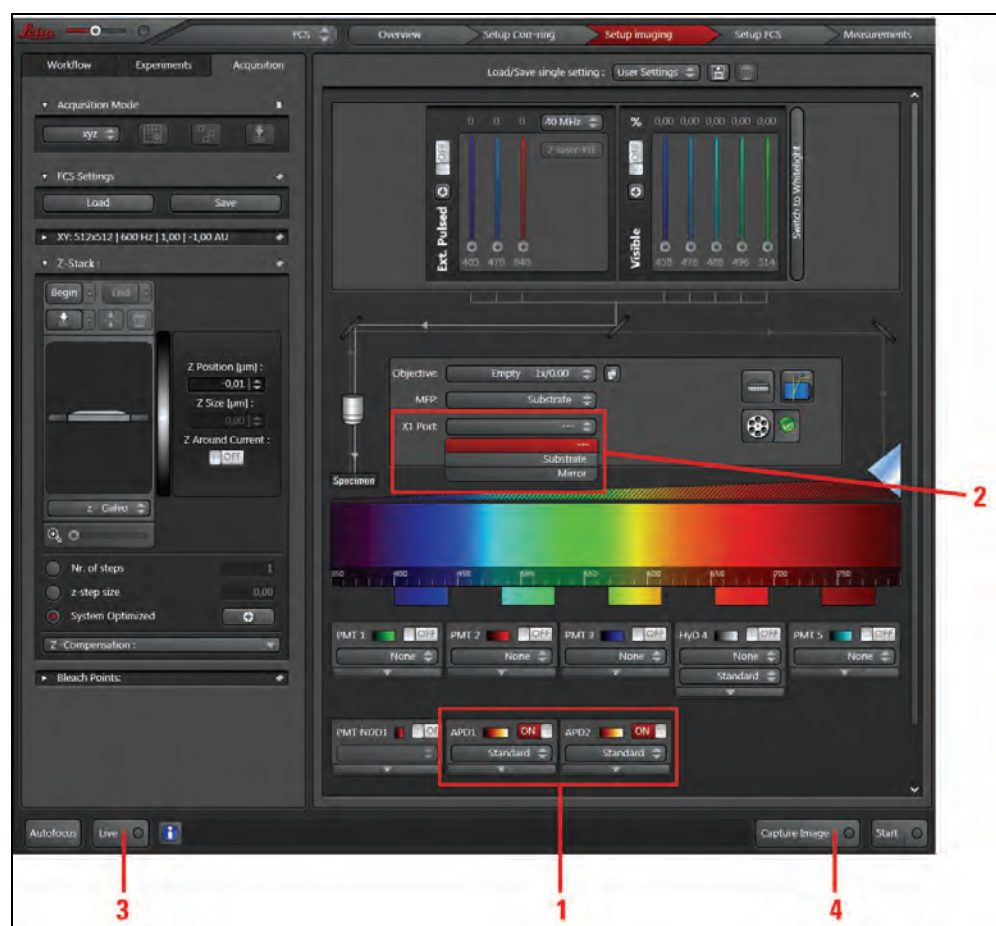

Figure 167: Settings for acquiring a reference image using APDs
2. Now activate the detectors **APD1** and/or **APD2** (Figure 167, item 1) in **Beam Path Setting** of LAS AF. Set the external port X1 to --- (Figure 167, item 2).
5. Start a continuous scan by clicking the image acquisition button **Live** (Figure 167, item 3) or start an individual image acquisition by clicking the image acquisition button **Capture Image** (Figure 167, item 4). Start with low laser intensity.